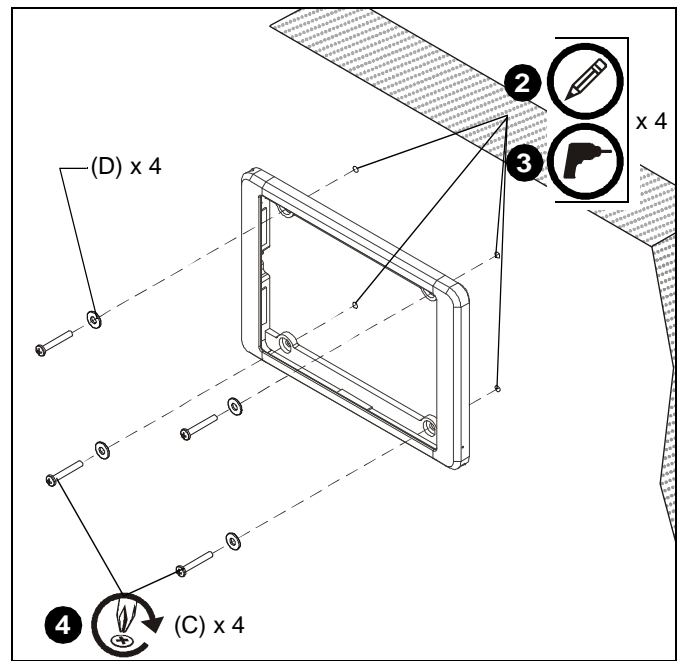

Figure 7
2. Using FSRI2T as a template, level and mark four holes at the four holes in FSRI2T. (See Figure 7)
3. Drill four 1/4" pilot holes at marked locations on wall. (See Figure 7)
4. Install four 1/4-20 x 1-3/4" Phillips pan head screws (C) through four 1/4" washers (D), holes in FSRI2T and into four pilot holes. (See Figure 7)